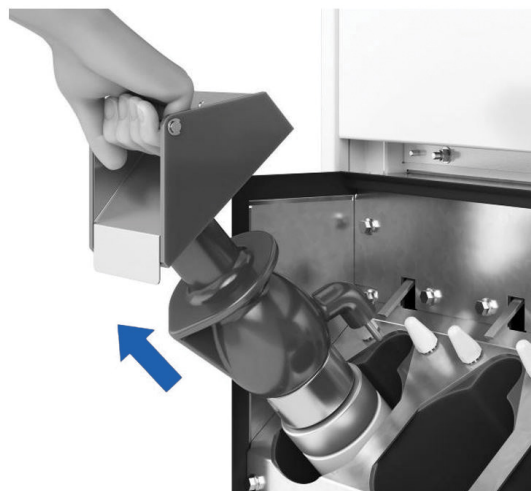

Figure 4-22: Remove the fuse
6. Remove the fuse with the handle. See figure 4-22.